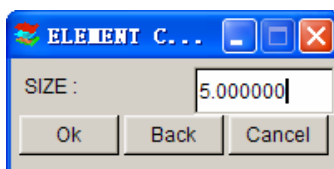

Figure 5.3.13 Element size
- Enter the size or number of elements to be created, and then press OK. See Figure 5.3.13.